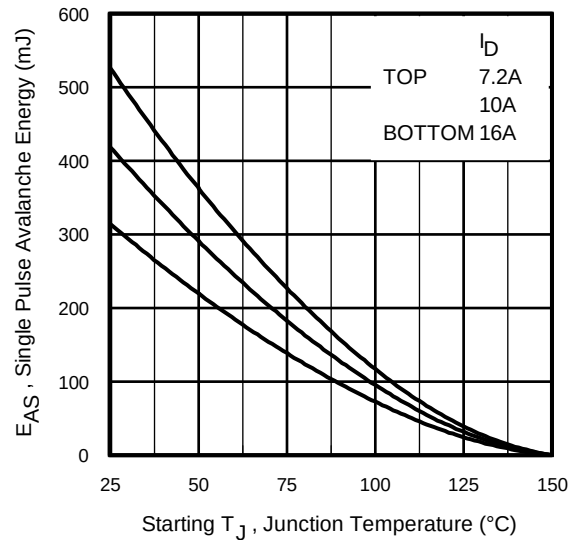

Fig 14a. Maximum Avalanche Energy vs. Drain Current
- ② Starting $T_J = 25^\circ\text{C}$, $L = 2.5mH$, $R_G = 25\Omega$, $I_{AS} = 16A$. (See Figure 14a)
- ③ $I_{SD} \leq 16A$, $di/dt \leq 650A/\mu s$, $V_{DD} \leq V_{(BR)DSS}$, $T_J \leq 150^\circ\text{C}$.
④ Pulse width $\leq 300\mu s$; duty cycle $\leq 2\%$.
⑤ $C_{oss \text{ eff.}}$ is a fixed capacitance that gives the same charging time as C_{oss} while V_{DS} is rising from 0 to 80% V_{DSS} .